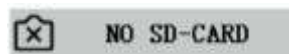

Figure 6-1
1. When pressing the snap button, recording videos, taking photos at a fixed time, or entering the SD card management menu, “NO SD-CARD” will be displayed, as shown in Figure 6-1. Please insert the SD card with file system FAT32 into the SD card slot on the right side of the camera and then carry out corresponding operations.